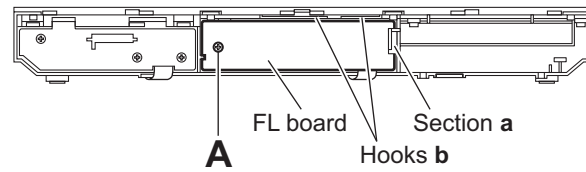

Fig.1
3.2.1 Removing the FL board (See Fig.1)
3.3.1 Removing the tray assembly (See Figs.1 to 3)
- (1) From the right side of the DVD mechanism assembly, push the slide cam and pull the tray assembly out of the DVD mechanism assembly in the direction of the arrow. (See Fig.1.)